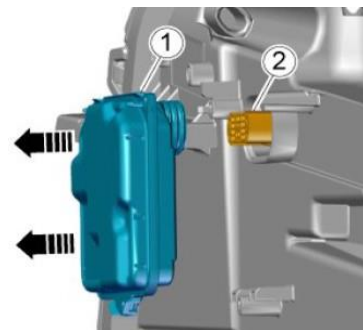

Figure 9
- Referring to Figure 9 - Carefully withdraw the control unit (1) away from the harness connector (2)